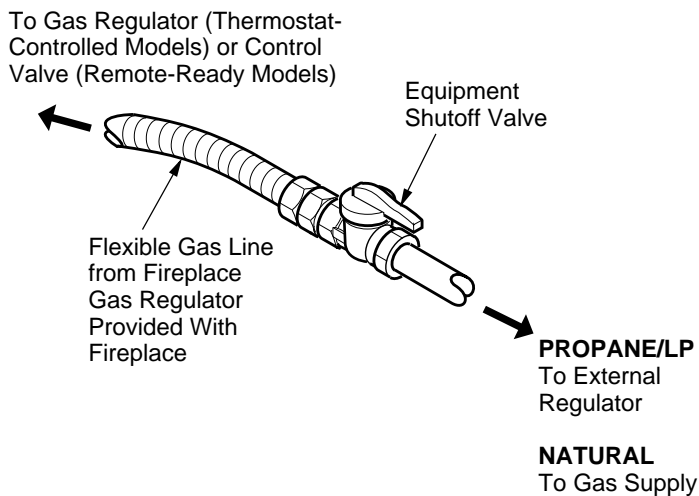

Figure 32 - Attaching Flexible Gas Line to Equipment Shutoff Valve
- Apply pipe joint sealant lightly to male threads of gas connector attached to flexible gas line/equipment shutoff valve (see Figure 32).